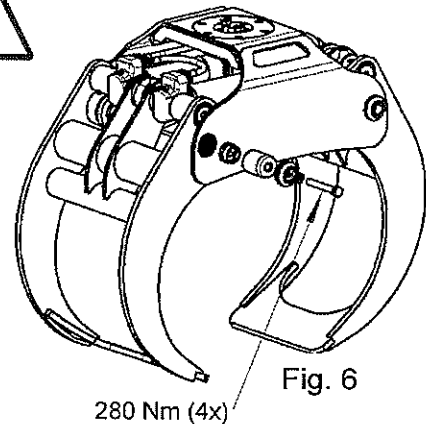

Fig. 6
**Check and retighten the expander bolts (see Fig. 6) during the first week (280 Nm)**